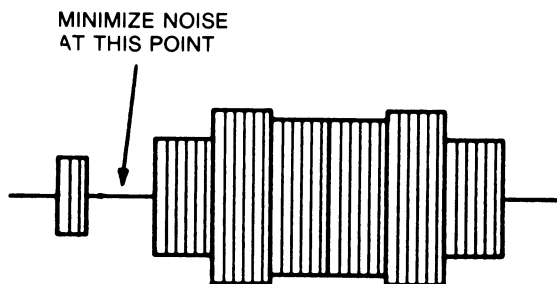

Fig. 6 - R - Y/B - Y Null Adjustment
4. Alternately adjust the *R - Y Null* control (R8422) and the *B - Y Null* control (R8424) to minimize the non-chroma portion of the signal at Q8210-E (see Fig. 6).